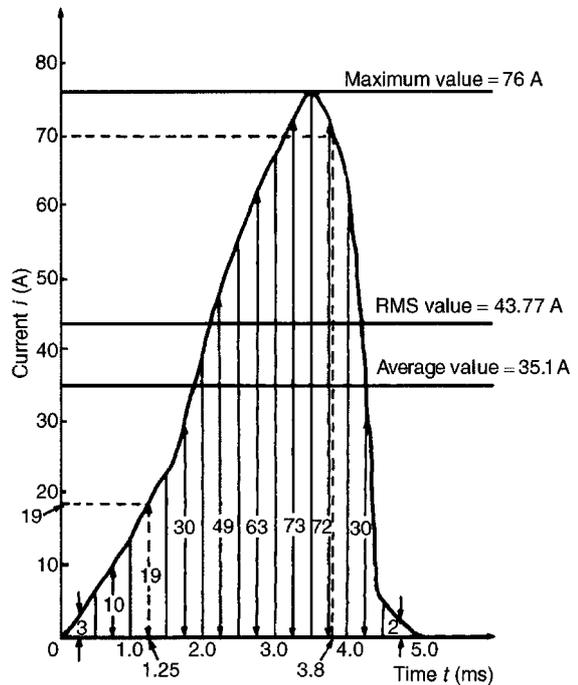

Figure 14.6
The half cycle of alternating current is shown plotted in Fig. 14.6
- (b) Instantaneous value of current after 1.25 ms is **19 A**, from Fig. 14.6. Instantaneous value of current after 3.8 ms is **70 A**, from Fig. 14.6
$$\begin{aligned} \left. \begin{aligned} \text{area under} \\ \text{curve} \end{aligned} \right\} &= (0.5 \times 10^{-3})[3 + 10 + 19 + 30 \\ &\quad + 49 + 63 + 73 + 72 + 30 + 2] \\ &\quad \text{(see Fig. 14.6)} \\ &= (0.5 \times 10^{-3})(351) \end{aligned}$$